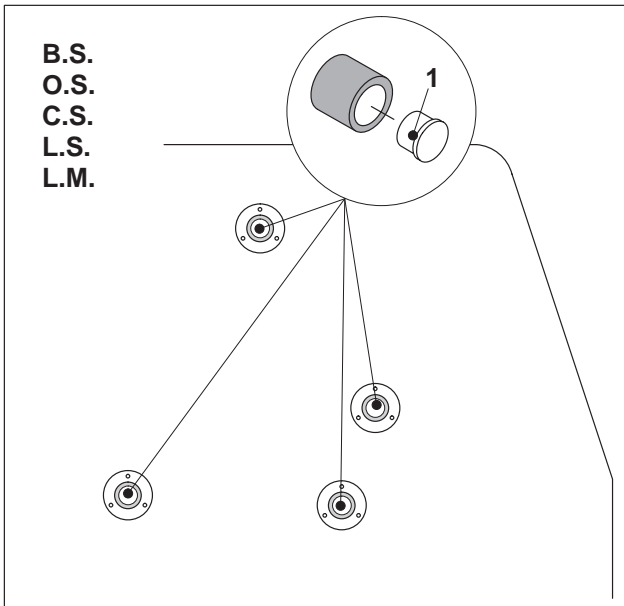

Fig. 2 Removing the plugs
- 2 Remove the plugs (Fig. 2/1) from the openings of the ink fountain roller and the ink distributors.